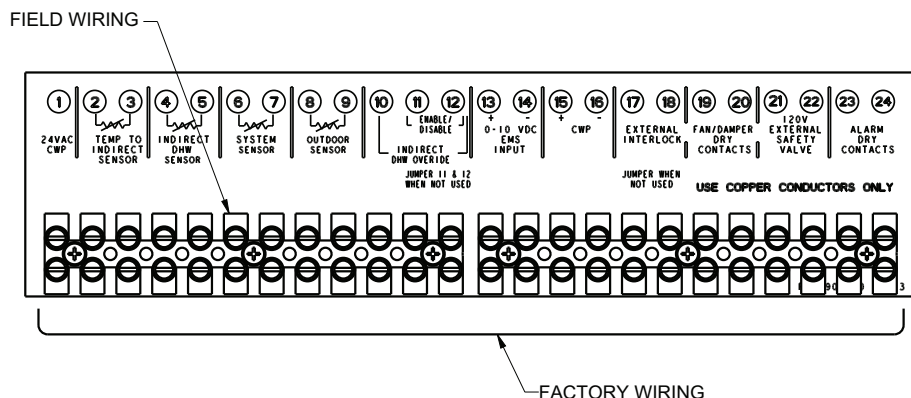

Fig. 22: Low Voltage Field Wiring
Connect the Enable/Disable (terminals 11,12) wiring to the field wiring terminals (shown in Fig. 22). Alternately, any dry contact closure (including a remote thermostat) across these terminals will enable the XTherm unit to run. Caution should be used to ensure neither of the terminals becomes connected to ground.
2. If using an Outdoor Sensor (option B-32), connect the sensor wires to the terminals marked OUTDOOR SENSOR (see Fig. 22). Caution should be
4. Connect an Energy Management system or other auxiliary control signal to the terminals marked 0-10V (+ /-) on the field wiring terminals (see Fig. 22). Caution should be used to ensure that the +0-10V connection does not create a short to ground.
3. Connect the system supply sensor to terminals 6 and 7 on the field wiring strip located on the Master PIM™ (See Fig. 22).
4. Connect the Outdoor sensor (if used) to terminals 8 and 9 on the field wiring strip located on the Master boiler (See Fig. 22).
- Connect the Enable/Disable wiring to terminals 11 and 12 on the field wiring strip located on the Master boiler (See Fig. 22). This connection must be provided through dry contacts closure.
An alarm annunciator or light may be connected to the alarm contacts on the field wiring terminal strip. The Alarm Contacts are 3A rated dry contacts on a normally-open relay that close during fault or lockout conditions, and the maximum voltage across the contacts is 30 VAC or 30 VDC. See the Field Wiring as shown in Fig. 22.